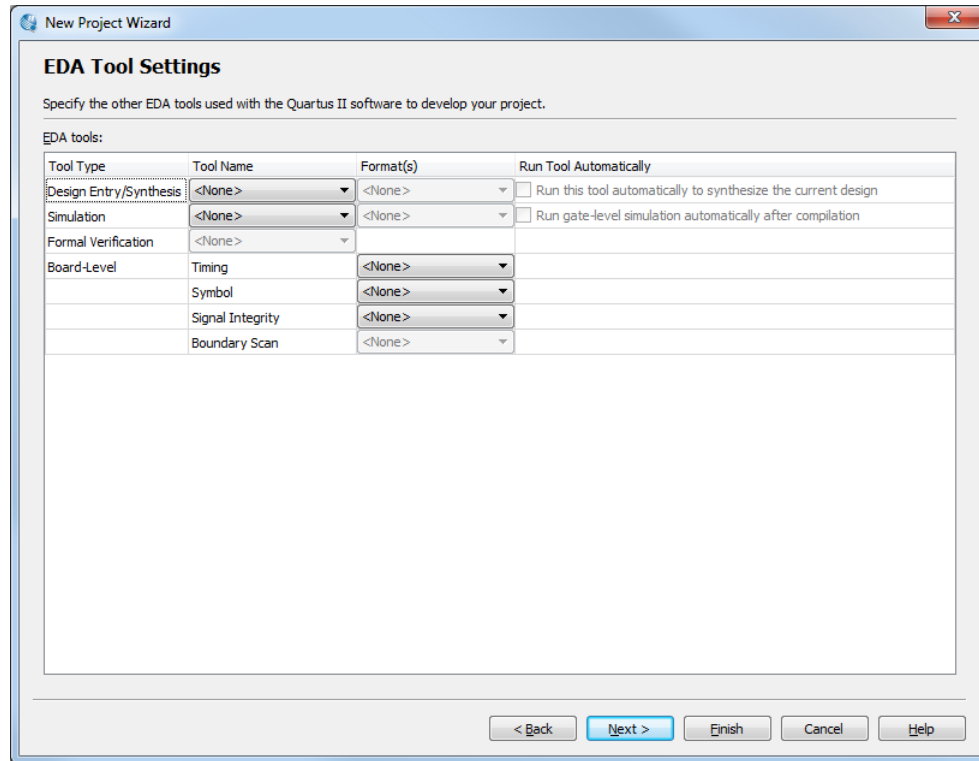

Figure 9: Other EDA tools can be specified.
- In this window, we can specify the type of device in which the designed circuit will be implemented. Choose the Cyclone V[®](E/GX/GT/SX/SE/ST) menu item as the target device family. We can let the Quartus[®] II software select a specific device in the family, or we can choose the device explicitly. We will take the latter approach. From the list of available devices, choose the device called 5CSEMA5F31C6. Press Next, which opens the window in Figure 9.